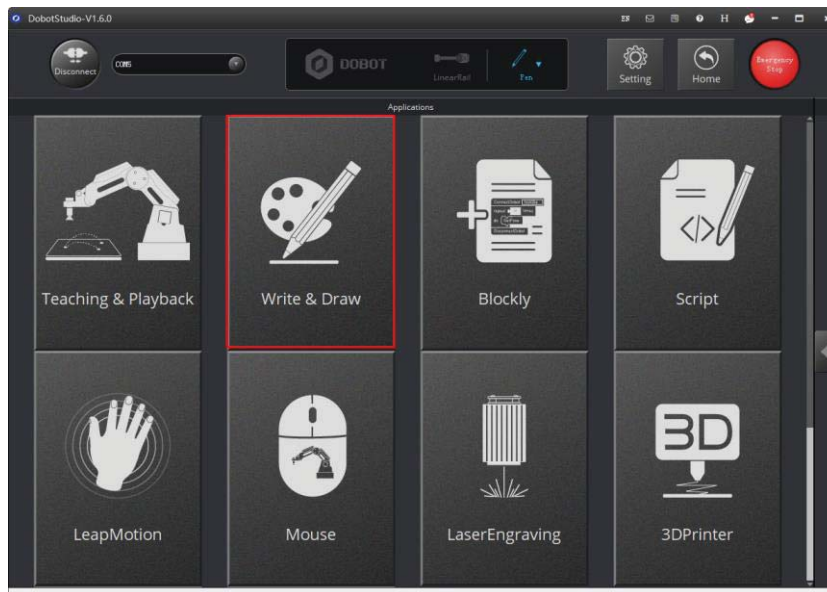

Figure 5.65 Click Write & Draw
Step 3 Click **Write & Draw** module function, as shown in Figure 5.65.